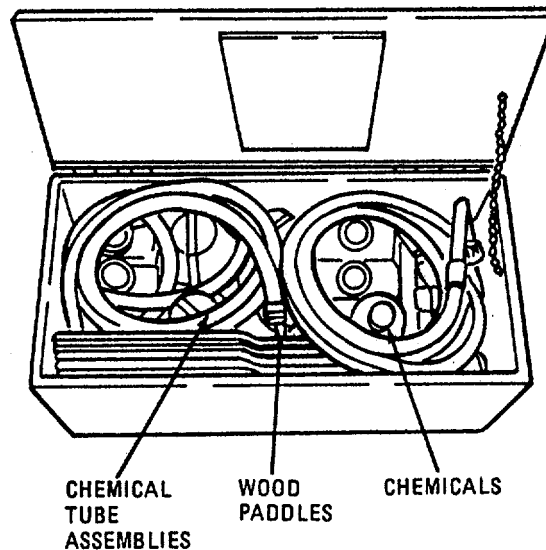

FIGURE 2-34. WOOD PADDLES AND CHEMICAL TUBE ASSEMBLIES
(18) Wood Paddles and Chemical Tube Assemblies.
- (a) Open Storage box No. 3 (figure 2-34) and remove the wood paddles and four sets of chemical tube assemblies.